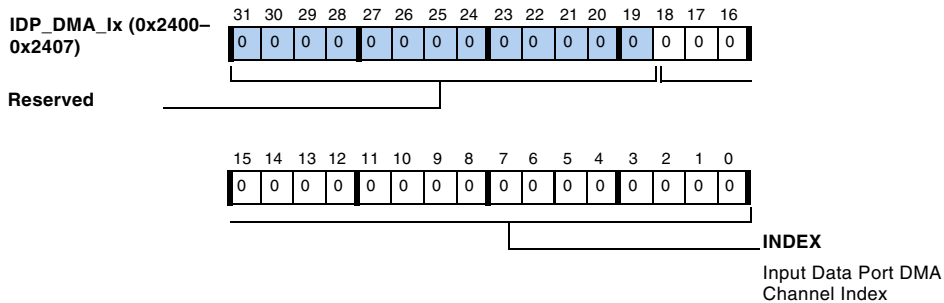

Figure A-64. IDP\_DMA\_Ix Register
- IDP\_DMA\_Ix (including IDP\_DMA\_I0, IDP\_DMA\_I1, IDP\_DMA\_I2, IDP\_DMA\_I3, IDP\_DMA\_I4, IDP\_DMA\_I5, IDP\_DMA\_I6, and IDP\_DMA\_I7) described beginning with Figure A-64